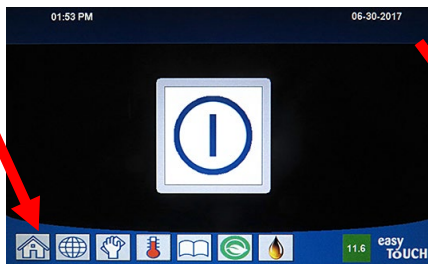

Figure 28
1. **WAIT FIVE (5) MINUTES** before proceeding to the next step.
2. Press the “HOME” button on the (see Figure 28).
9. Press the “HOME” button (see Figure 28) when finished.